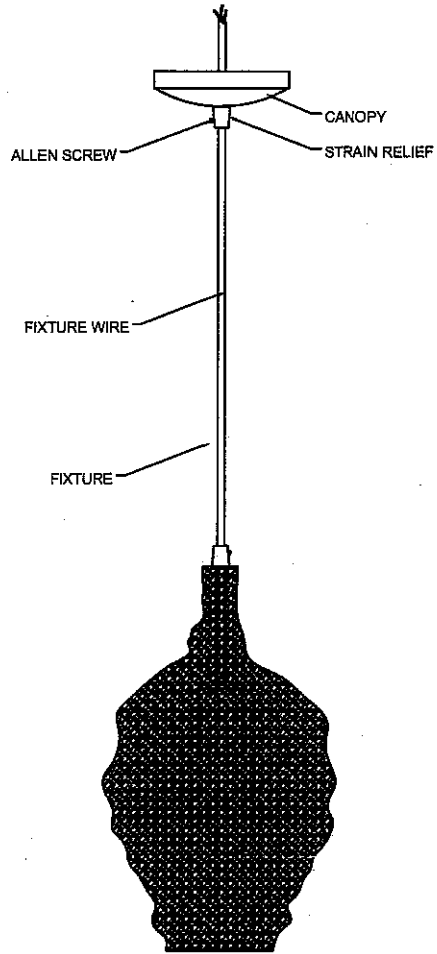

FIGURE-02
- Determine the desired fixture height and place the canopy to the fixture wire then secure it to the strain relief using the allen screw. (See Figure -02)